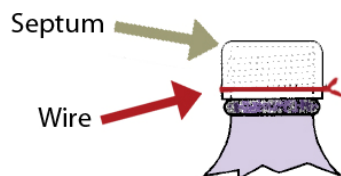

Fig. 4A Septa wired to vessel
- For long-term storage, the septum should be secured with a copper wire (figure 4A).